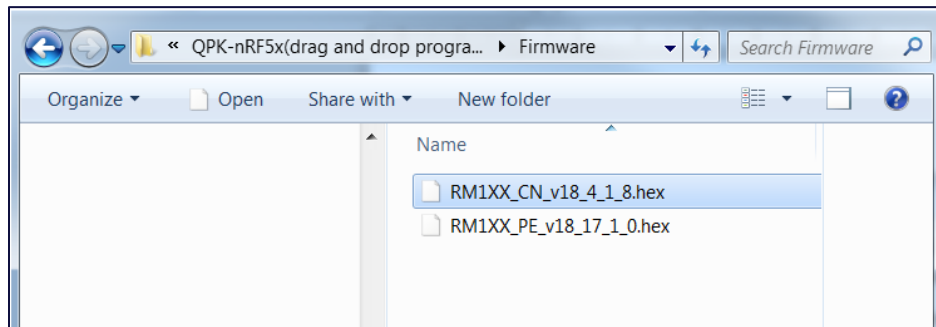

Figure 8: Download and extract the firmware on to your PC
5. Download the firmware from Laird website and extract it to a local drive on your PC (Figure 8).